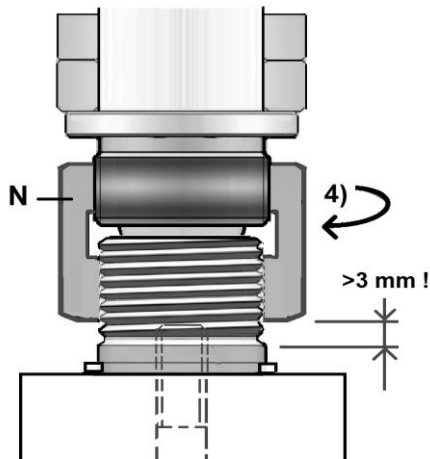
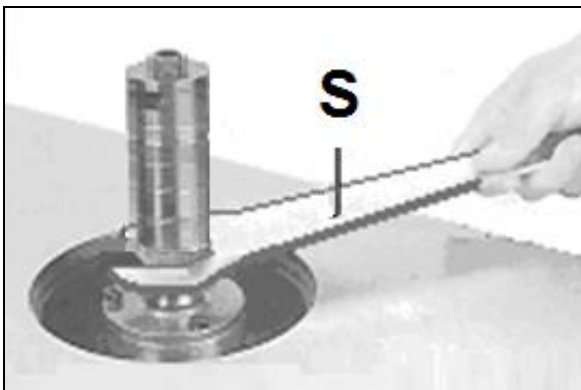

Fig 14
Fig 15
- 4) Firmly tighten the arbour nut (N, Fig 14) using the supplied spanner (S, Fig 15).